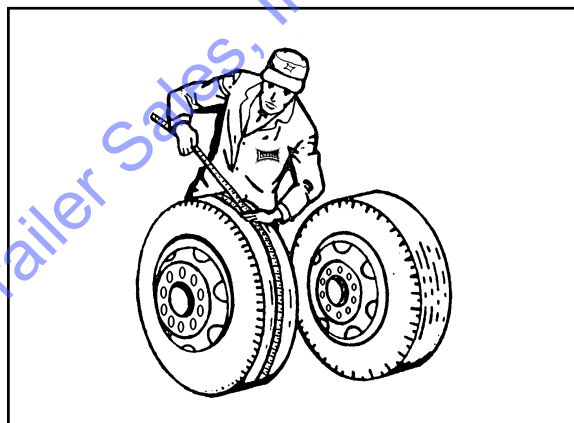

Fig. 4-17 Measuring Tape Method
a. Tape Measuring Method: Measure around each tire on the tread surface. A maximum difference of $\frac{3}{4}$ " is allowed between the two mating tires of a dual (**See Figure 4-17**).